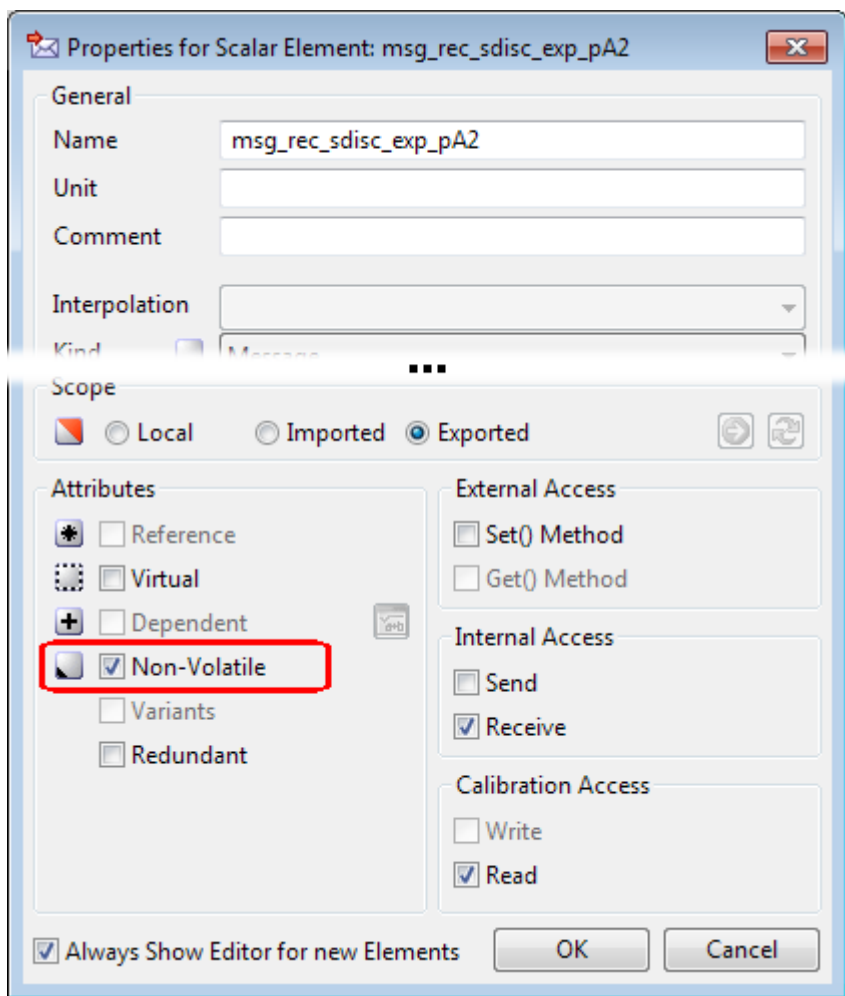

Figure 4.28: Assigning the Non-Volatile attribute to an element
3. In the "Attributes" area, activate the **Non-Volatile** option (see Figure 4.28 on the next page).